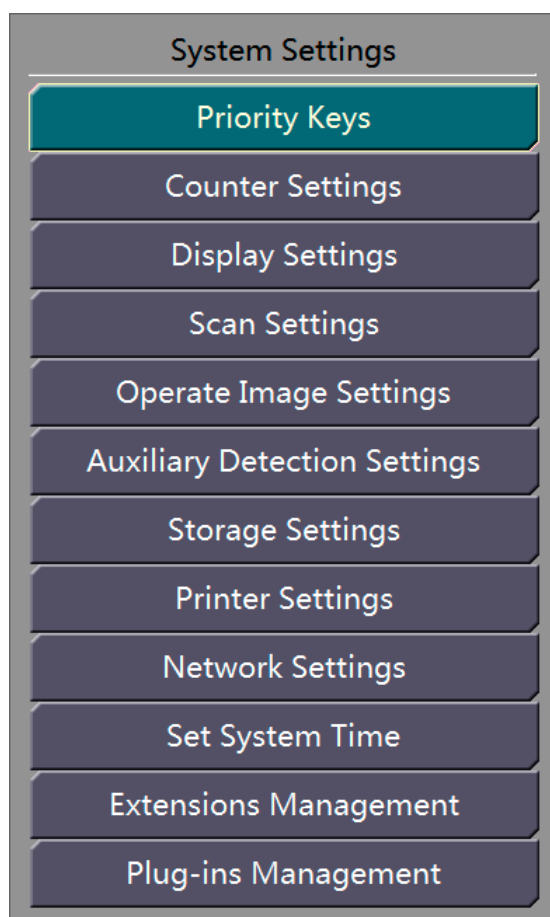

Figure 18-6 Menu of System Settings
Step 1 Move the cursor to select the System Settings item in the main menu (Figure 14-1), and press the Increase key on the operation keyboard. System Settings pops up, as shown in Figure 18-6.
Step 2 Click “OK” or press “F1” on the operation keyboard, and the selected tone takes effect, or click “Cancel” or press “F2” on the operation keyboard to cancel the previous settings. The system returns to the interface of Figure 18-6.